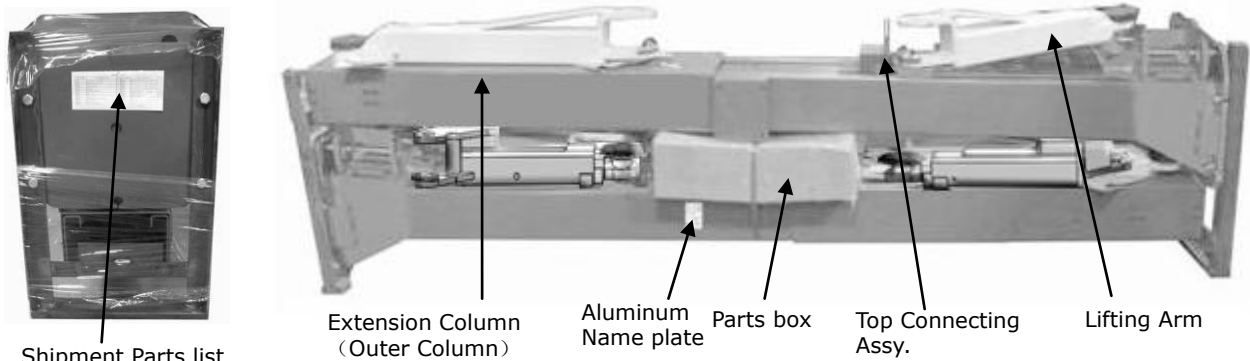

Fig. 9
2. Move aside the lift with fork lift or hoist, and open the extension packing carefully , take off the lifting arms and parts box from upper and inside the column, then move them to location nearby installation site, check the parts according to the shipment parts list (See Fig.9).